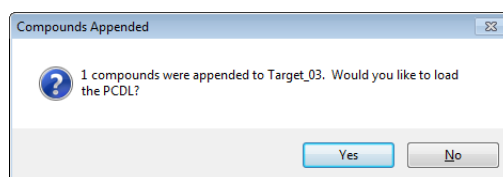

Figure 31 Compounds Appended dialog box.
- l Click **No** in the **Compounds Appended** dialog box since there are additional compounds to append to the **Target_03** compound database (Figure 31 on page 33). If this is the last compound go to step o.
- o Click **Yes** in the **Compounds Appended** dialog box after you appended the last of the six compounds to the **Target_03** compound database (Figure 31).